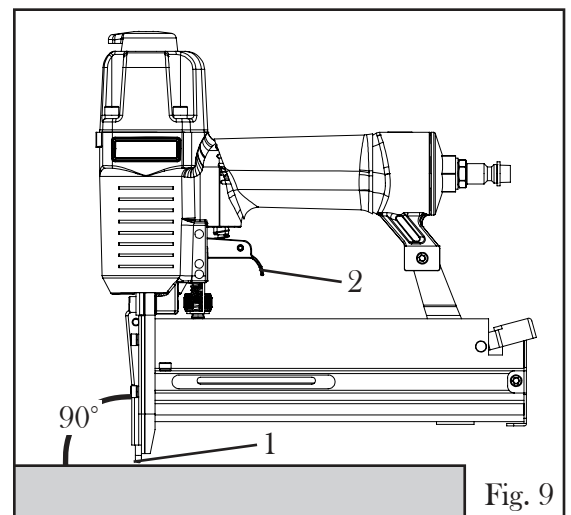

Fig. 9
3. Hold the nailer upright on the workpiece and position the safety bracket where the fastener will be driven (Fig. 9).
4. Carefully press down on the safety bracket (Fig. 9 - 1) and pull the trigger (Fig. 9 - 2) to drive a fastener.